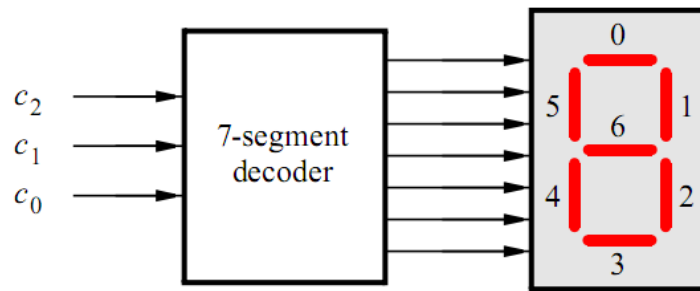

Figure 6.A 7-segment decoder.
Figure 6 shows a 7-segment decoder module that has the three-bit input $c_2c_1c_0$. This decoder produces seven outputs that are used to display a character on a 7-segment display. Table 1 lists the characters that should be displayed for each valuation of $c_2c_1c_0$. To keep the design simple, only four characters are included in the table (plus the 'blank' character, which is selected for codes 100 – 111).
2. Create a VHDL entity for the 7-segment decoder. Connect the $c_2c_1c_0$ inputs to switches SW_{2-0} , and connect the outputs of the decoder to the HEX0 display on the DE2-115 board. The segments in this display are called $HEX0_0, HEX0_1, \dots, HEX0_6$, corresponding to Figure 6. You should declare the 7-bit port